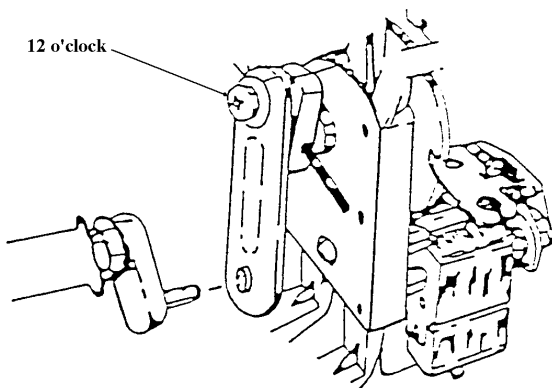
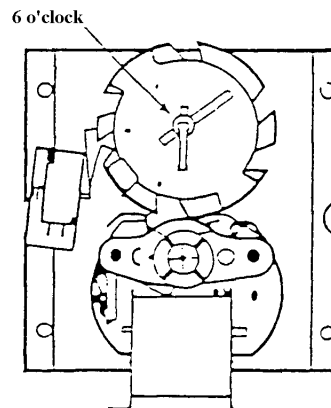

Fig. 10
Fig. 11
1. Make sure the hole through the rear shaft is in a horizontal plane. (If a pin were inserted in the hole, the pin would be horizontal). See Fig 10.
2. Slide the Drive Arm (with linkage attached) on the rear shaft as shown. See Fig. 10.
6. Install the Vending Cam on the front shaft of the Motor making sure that the Lock Tab is at 6 o'clock as shown. See Fig. 11.
NOTE: When the screw holding the Linkage Arm to the Drive Arm is at the 12 o'clock position (See Fig. 10), the Lock Tab will be at the 6 o'clock position (See Fig. 11).